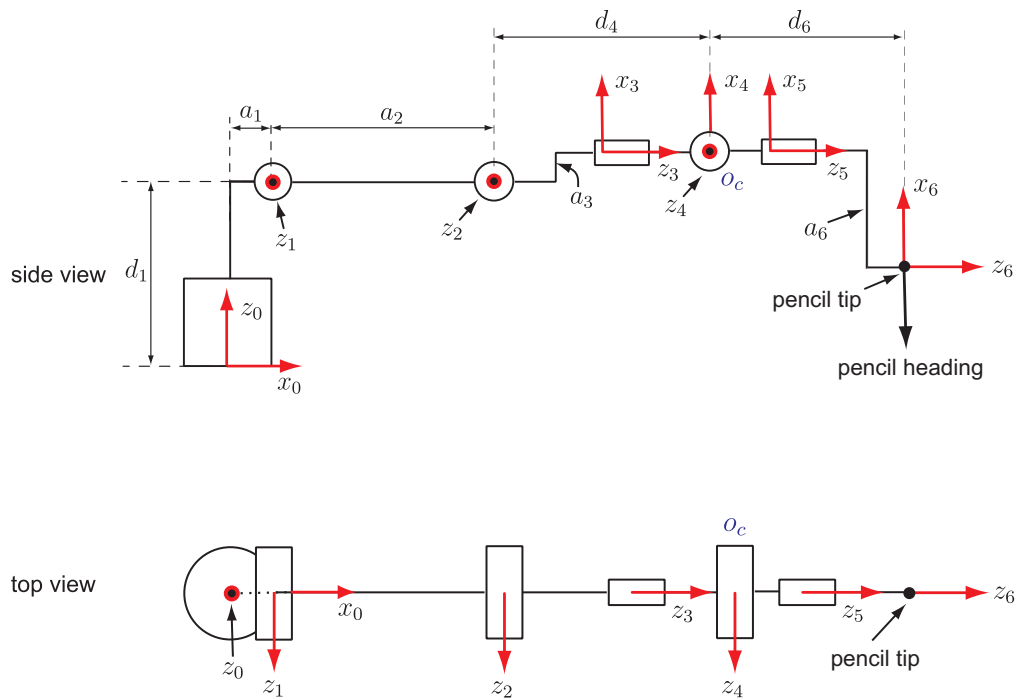

Figure 2: Schematic diagrams illustrating the KUKA kinematic parameters
The kinematic parameters of the robot are detailed in Figure 2. The red elements in the figure are the joint axes. The values of various parameters are found in the table below.
- The position of the wrist centre o_c is shown in Figure 2. First find $(\theta_1, \theta_2, \theta_3)$ such that $o_c^0(\theta_1, \theta_2, \theta_3) =$